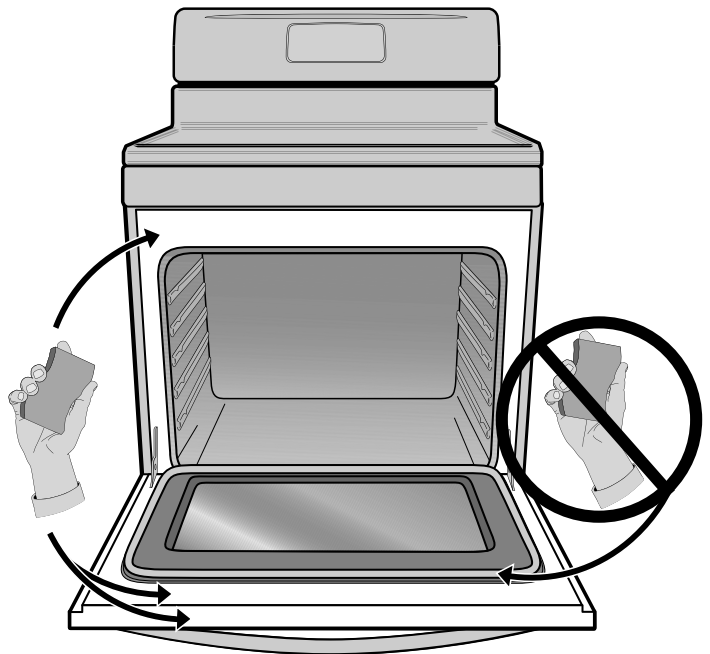

Fig. 1
- Clean any soil from the oven frame, the door liner outside the oven door gasket and the small area at the front center of the oven bottom (See Fig. 1; areas shown in white). These areas heat sufficiently to burn soil on. Clean with soap and water.